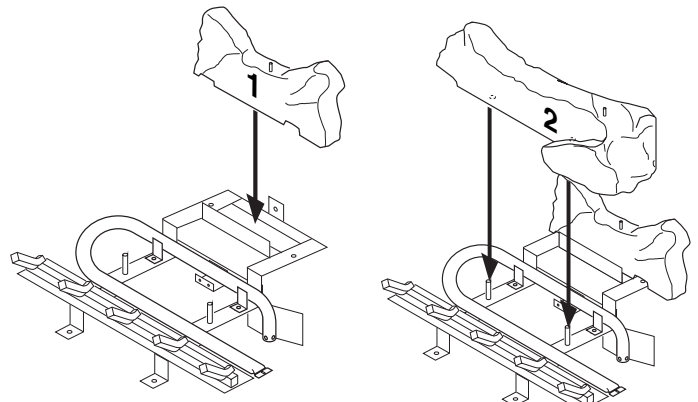

Figure 40 - Installing Log No. 1 **Figure 41 - Installing Log No. 2**
1. Place log #1 (rear log) on top of grate. Make sure the notches in the bottom of the log fit over the grate (see Figure 40).